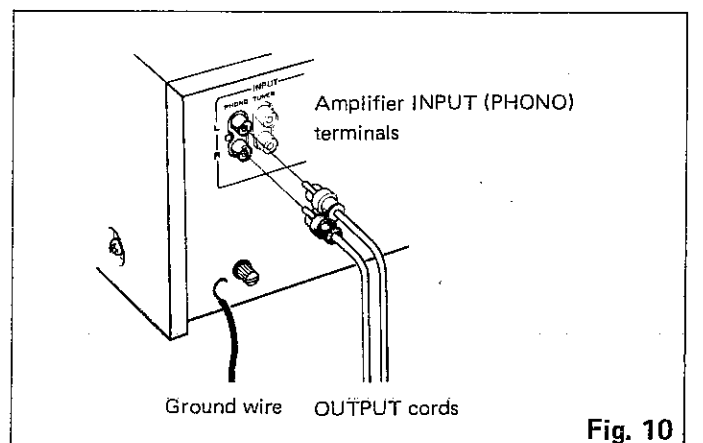

Fig. 10
4. CORD AND GROUND WIRE CONNECTIONS (Fig. 10)